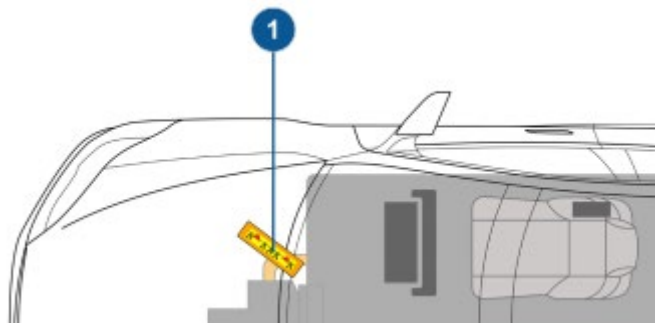

Figure 3
3. Double cut a section out of the First Responder Loop, located on the RH side of the vehicle, under the rear underhood apron (Figure 3).